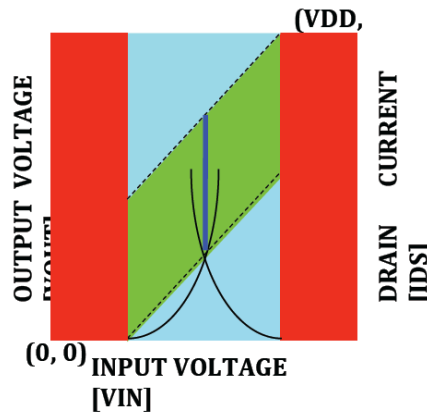

Figure 12.6: Solution to problem 5.3 a)
- a) In the red regions the current is zero (at least on the scale we draw it here). In the blue regions, the current is equal to the saturation current for the transistor that is in the saturation region (that is the one with the lowest effective gate voltage, VGT). In the green region the current is equal to the saturation current when the two transistors have the same effective gate voltage. See Figure 12.6.